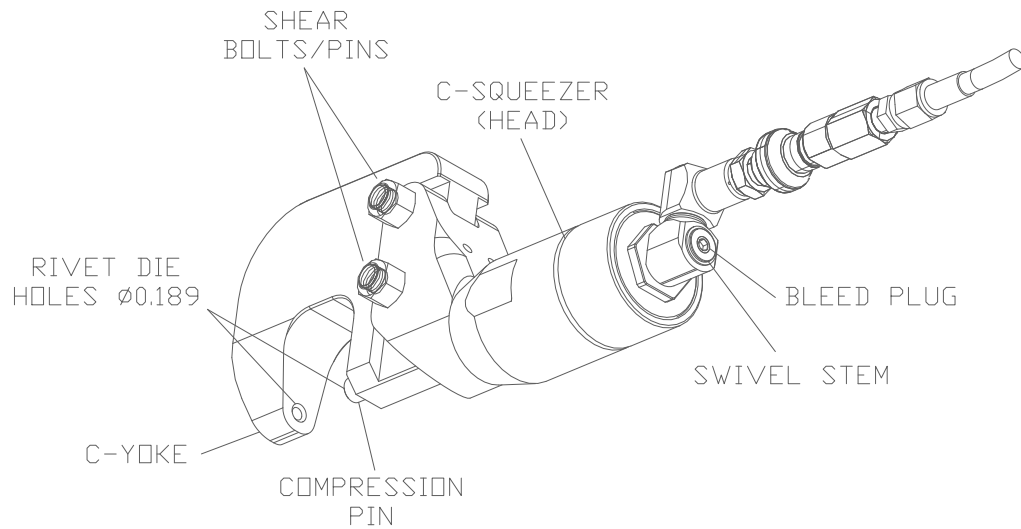

FIGURE 5 – C-SQUEEZER COMPONENTS
- 4.3 Refer to Figure 5 for installation views of the C-yoke, compression pins and bolts.
- 4.11 All CP-214 compatible yokes will have a mounting width of .560" (the width of the yoke that is inserted into the C-Squeezer mount block). Some Heavy Duty (HD) yokes, typically 1.0" thick, may require a slight modification to fit the Numatx C-Squeezers. Refer to figure 5. Numatx Yokes are a direct fit into the yoke mount.